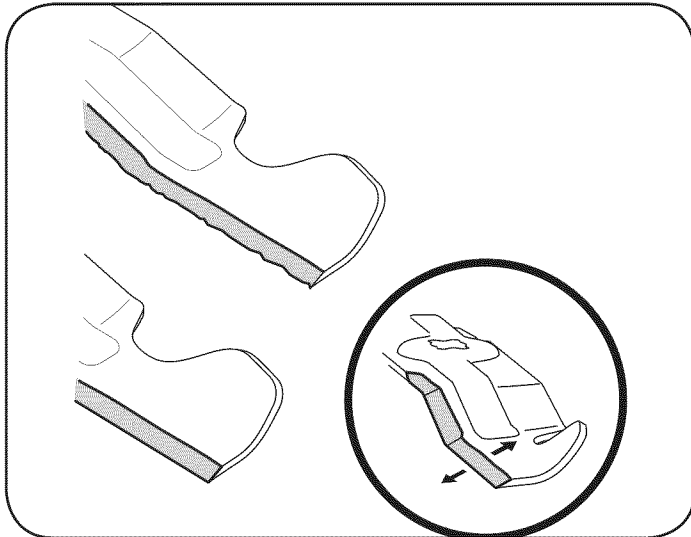

Figure 18
- While holding the belt and pulley together, rotate the pulley to the left (See Figure 18). Continue holding and rotating the pulley and belt until the belt is fully rolled into the PTO pulley.
- To properly sharpen the cutting blades, remove equal amounts of metal from both ends of the blades along the cutting edges, parallel to the trailing edge, at a 25° to 30° angle. Always grind each cutting blade edge equally to maintain proper blade balance. See Figure 18.